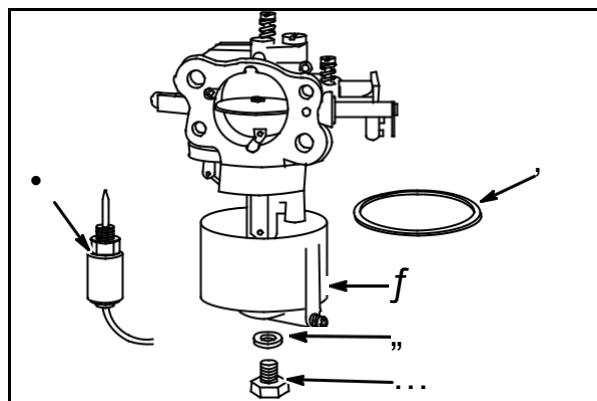

Fig. 23
Remove anti-afterfire solenoid (1) or bowl screw (5) and washer (4), **Fig. 23**.